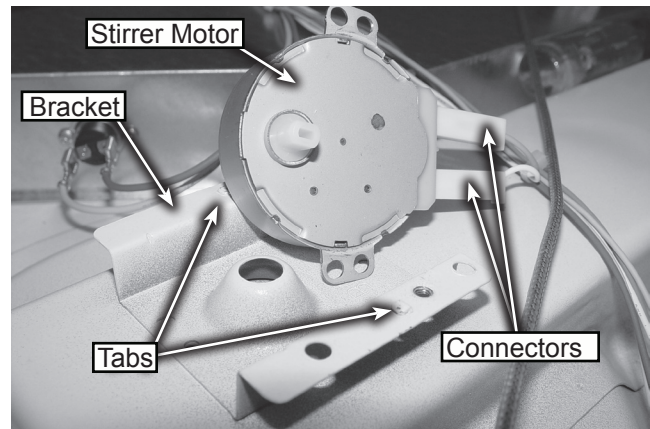

Figure 2.
5. Disengage two tabs on the bracket from the mounting holes in the motor, see figure 2.
6. Remove two connectors and replace motor, see figure 2.